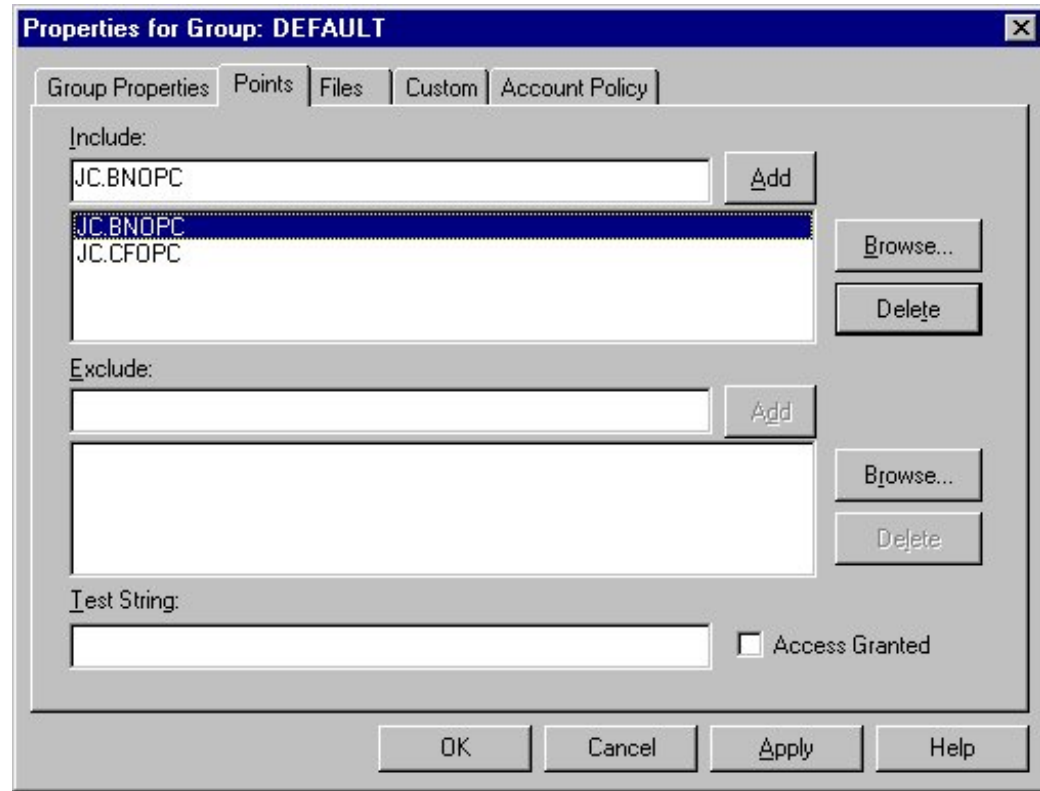

Figure 3-8: Default Group Properties Page – Points Tab
- enter or browse to the desired OPC server point name (i.e., JC.BNOCPC) to grant access to only certain OPC servers (Figure 3-8). Use this option when OPC server access for users or groups must be restricted for security. The user or group can browse only the OPC servers to which they were granted access.